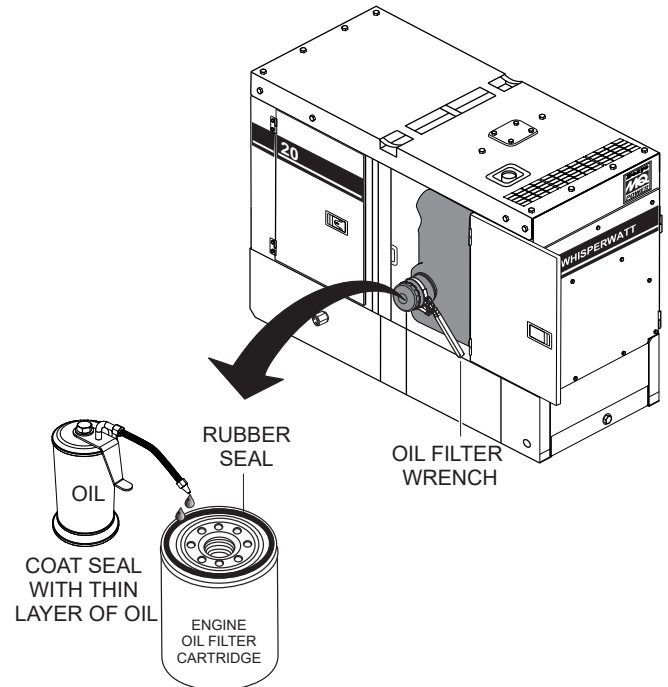

Figure 56. Oil Filter Replacement
2. Using an **oil filter wrench** (Figure 56), remove the **engine oil filter**.
3. Coat the rubber seal (gasket) surface of the new oil filter with clean 15W-40 engine oil (Figure 56).